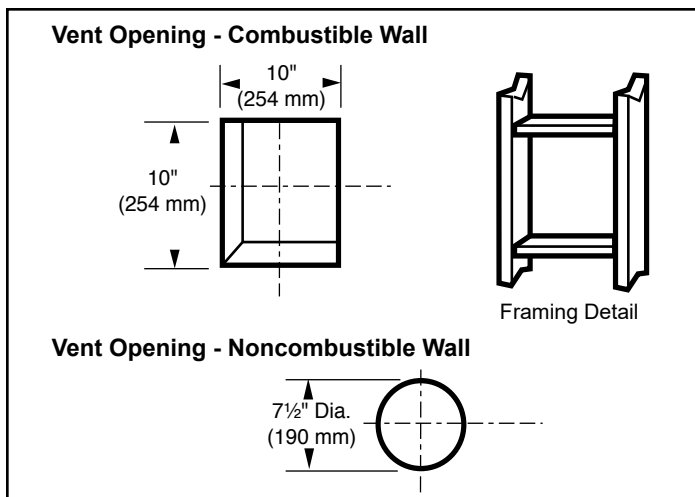

Figure 3.10 - Locate vent opening. NOTE: Zero clearance sleeve is required for combustible wall installations.
1. Locate vent opening on the wall. It may be necessary to first position the stove and measure to obtain hole location. Depending on whether the wall is combustible or noncombustible, cut opening to size, Figure 3.10 (For combustible walls first frame in opening.) Combustible Walls: Cut a 10" H x 10" W (254 x 254 mm) hole through the exterior wall and frame as shown, Figure 30. Noncombustible Walls: Hole opening must be 7-1/2" (191 mm) in diameter.